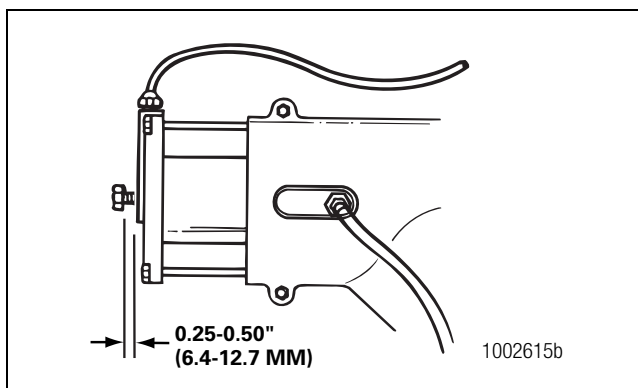

Figure 11.8
- D. Turn the cap screw to the right until the head is approximately 0.25- to 0.50-inch (6.4 to 12.7 mm) from the cylinder. The cap screw is now in the service position and the DCDL shift collar is locked (engaged). Figure 11.8. When turning the cap screw you will feel a small amount of resistance. This is normal. If you feel a high resistance before achieving the 0.25- to 0.50-inch distance between the cap screw head and cylinder, STOP TURNING THE CAPSCREW and continue with Steps E and F.